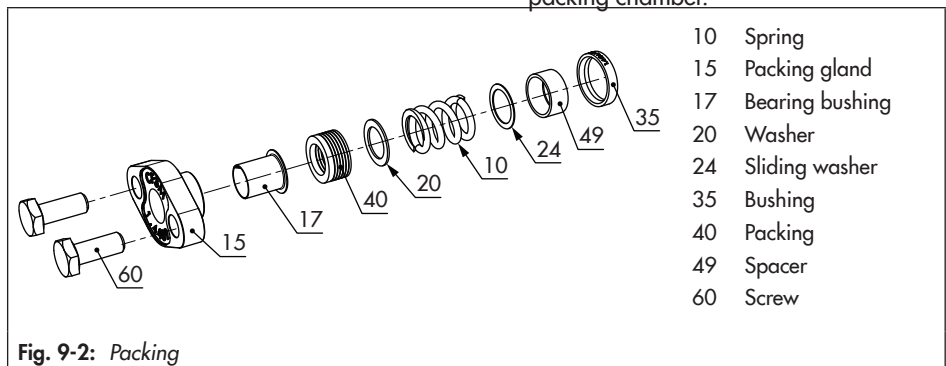
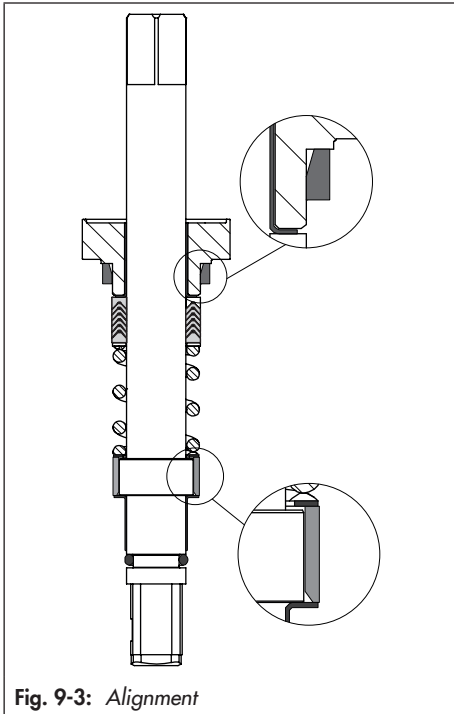

Fig. 9-2: Packing
Fig. 9-3: Alignment
See Fig. 9-2 and Fig. 9-3
5. Apply lubricant to each V-ring before adding it to the new packing (40).
6. Apply lubricant to the inside and outside diameters of the packing (40).
7. Push the ring (35) over the valve shaft (12) into the valve body. Make sure the proper alignment is achieved by paying attention to the beveled part (see Fig. 9-3).
8. Mount the spacer (49) in such a way that it covers the shoulder of the valve shaft (12). Make sure the proper alignment is achieved by paying attention to the beveled part (see Fig. 9-3).
9. Slide the first sliding washer (24), spring (10) and the second washer (20) into the packing chamber.
10. Push the packing (40) into the packing chamber. Make sure the V-rings are properly aligned (see Fig. 9-3).
11. Lubricate the screw connection (60 or 65, 75) and use it to fasten the packing gland (15) including the bearing bushing (17) onto the valve body. Observe tightening torques.